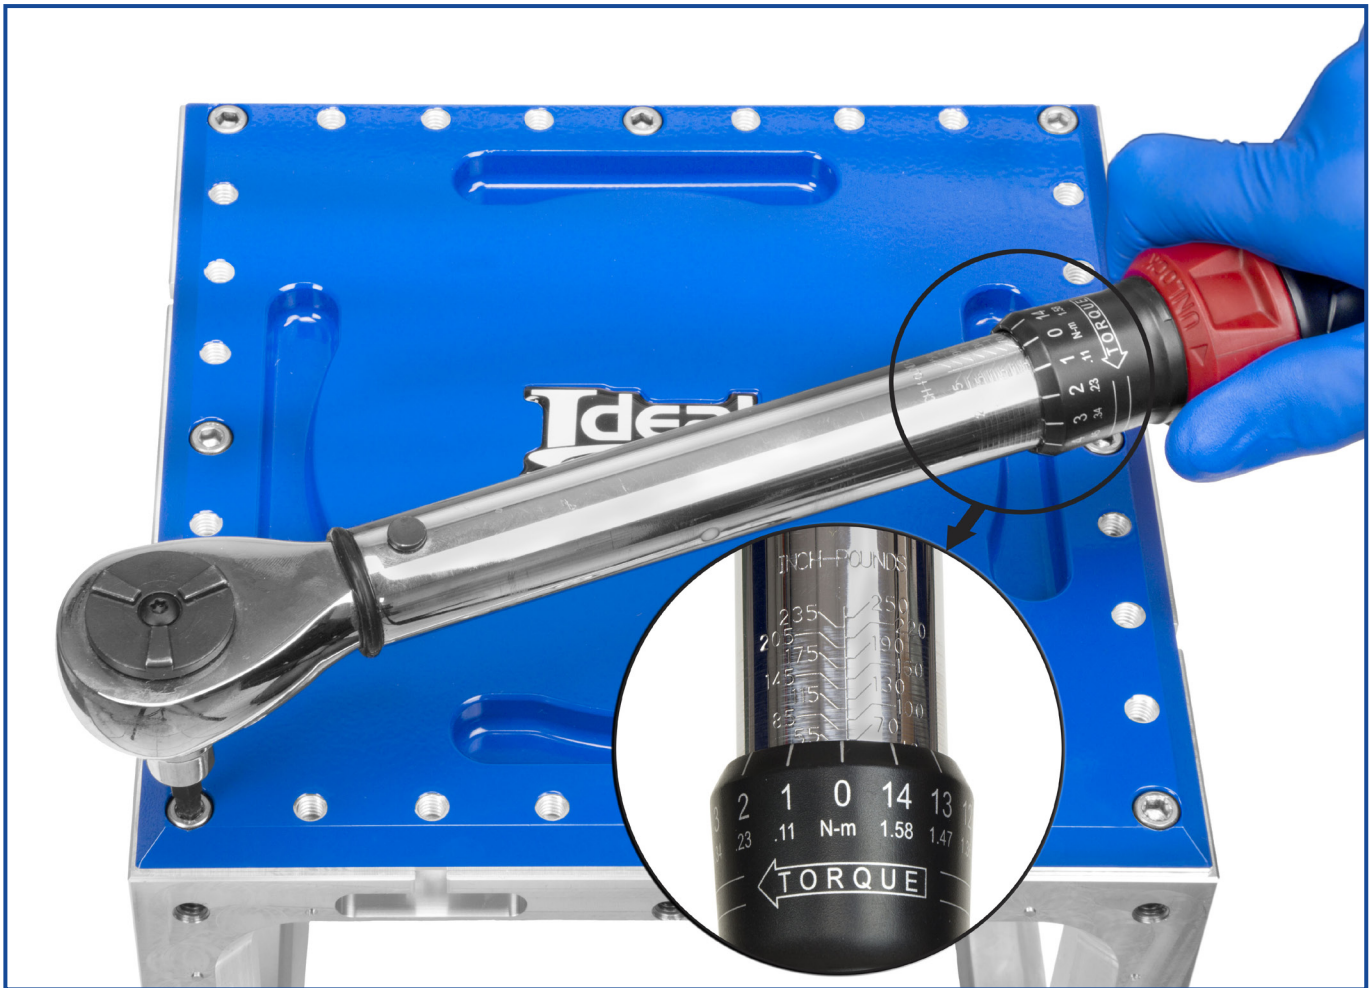

Figure 11 - Torque bolts to 70 in-lb.
8. Finish tightening the bolts using a torque wrench set to **70 in-lb.** maximum (Figure 11).